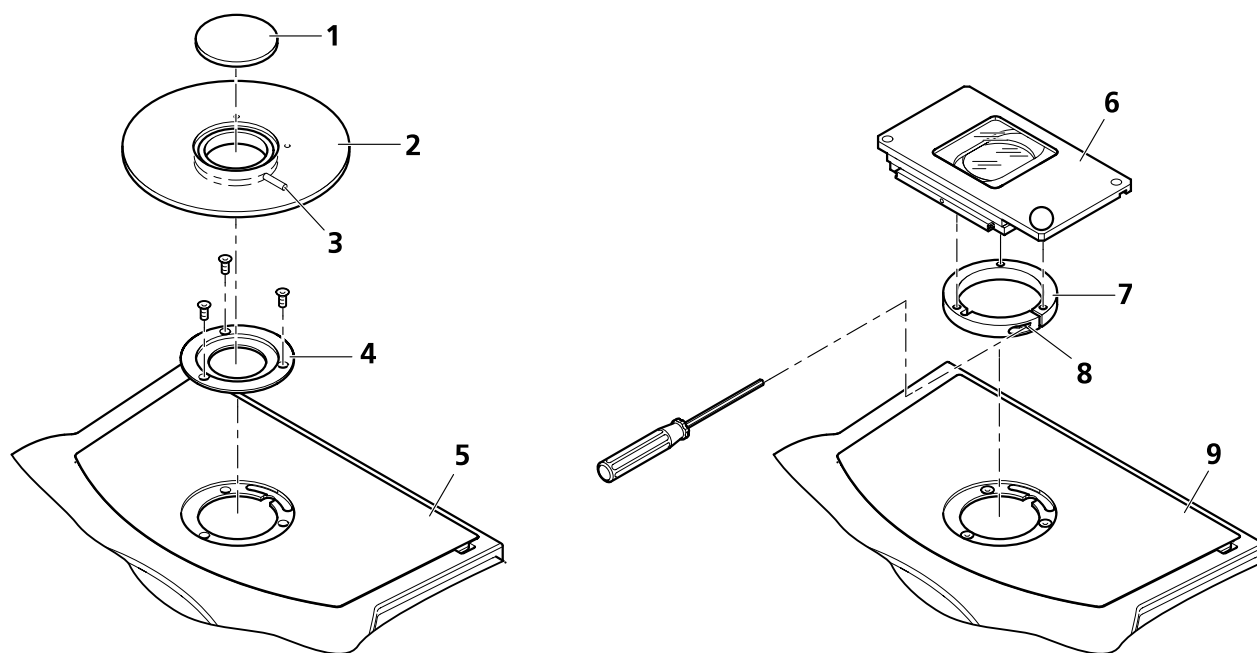

Fig. 15 Installing the stage
Stages with 84 mm interface should be fastened to the stand base by means of the 84/120 mm stage adapter (Fig. 15/4).
- Unscrew three short Allen screws (SW 3) from insert plate (Fig. 15/5).
- Use three longer Allen screws (SW 3) to screw down the stage adapter (Fig. 15/4) hand-tight through the insert plate.
- Put the stage (Fig. 15/2) onto the stage adapter and align it.
- Throw eccentric clamping lever (Fig. 15/3) over to clamp the stage in the stage adapter.
- Put the round 84 mm plate (Fig. 15/1) into the stage interface.
Stages with 120 mm interface (Fig. 15/6) should be fastened to the insert plate (Fig. 15/9) by means of the stage-clamping ring mounted to the stage (Fig. 15/7). Do not remove the stage-clamping ring.
- Put the stage with installed stage-clamping ring (Fig. 15/6 and 7) onto the insert plate (Fig. 15/9) and align it.
- Clamp the stage-clamping ring in the insert plate by turning the Allen screw (SW 3) (Fig. 15/8) clockwise.